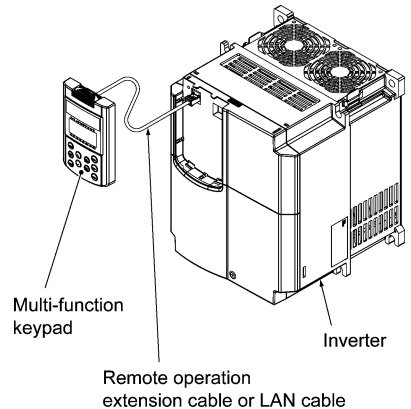

Figure 2.3 Using the Multi-function Keypad Remotely in Your Hand
- Using it remotely in your hand (see Figure 2.3).